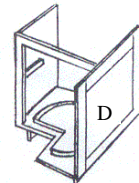
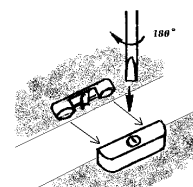

Figure 5
Figure 10
5. Insert left side panel (C) into the grooves of face frame (A) on the magnetic latch side. Align the plastic half part of the cam lock connectors. Make sure it fits and lock connectors with screwdriver by turning the screw located on the cam lock connector to the right 180 degrees (Figure 10). stand up side panel up right at this time.
6. Insert bottom w/ turntable (E) through race frame, well align the cam locks and lock the connectors.
7. Insert right side panel (D) into the grooves of face frame (A). Align the cam lock and lock connectors. (Figure 5)
9. Insert shelf w/ turntable into position on short shelf steps, align the cam lock at bottom and tighten as shown in Figure 10.